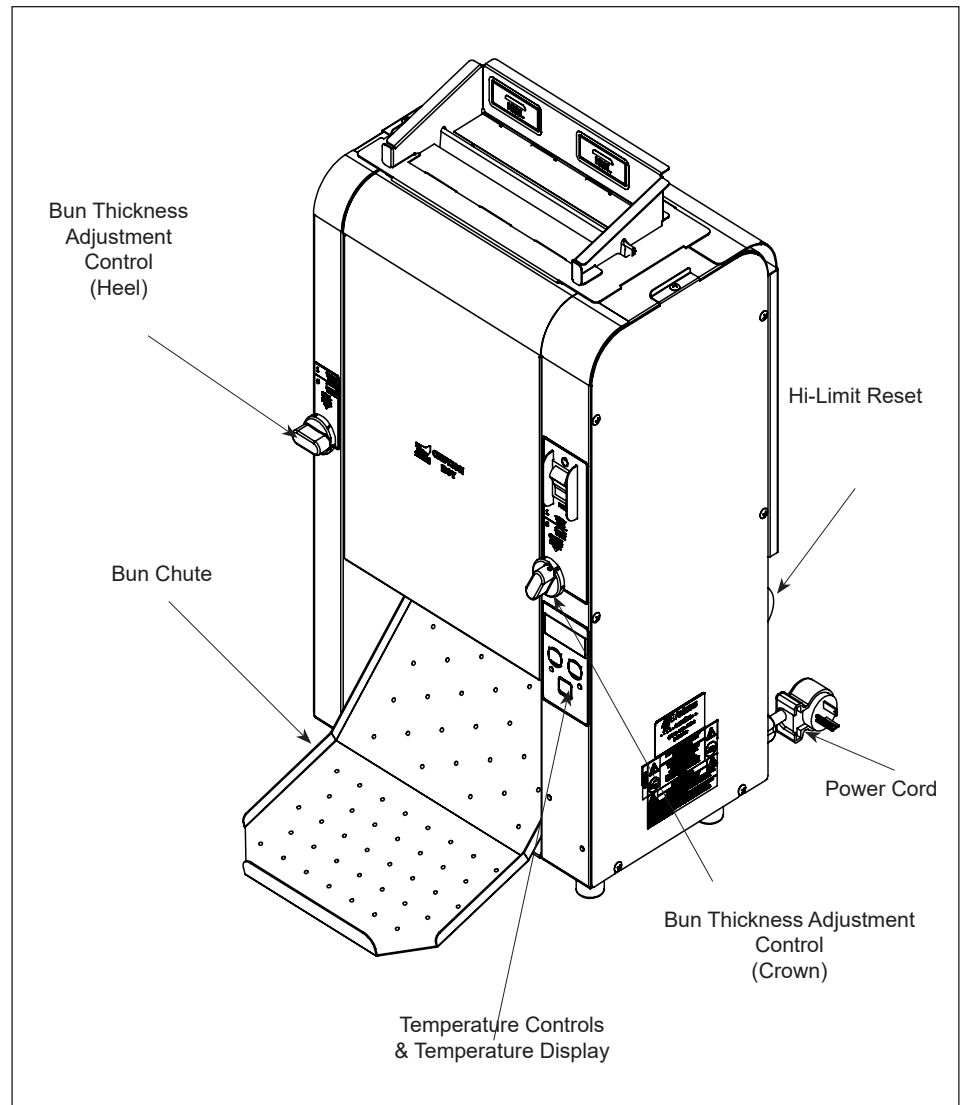

Figure 3. VCTM-2 Toaster
1. Set the Bun Thickness Adjustment Controls (Figure 3).
**NOTE:** The display (Figure 3) flashes "LO" during warm-up. "USE" appears when the toaster is ready for use.
4. Toasted buns drop onto the Bun Chute (Figure 3).
A Hi-Limit Control turns off power to the unit if it overheats. To reset the control, allow the unit to cool, then locate the Reset Button at the rear of the unit. Remove the black protective cap, press the Reset Button, and reinstall the protective cap (Figure 3).